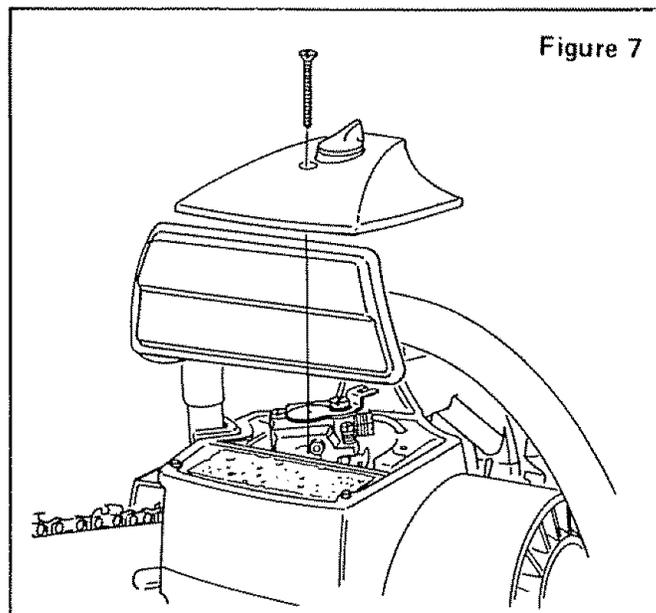
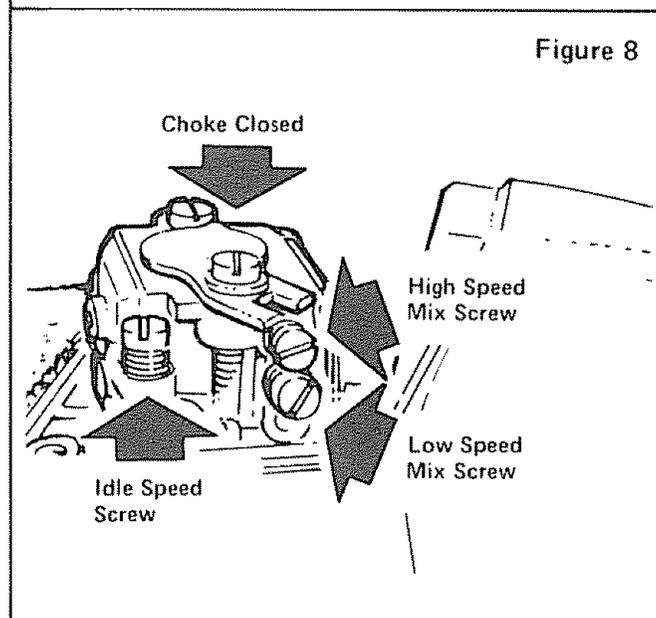

Figure 7
Figure 8
- 2 Remove the carburetor cover (Figure 7) Turn the high speed (Figure 8) and low speed mixture screws clockwise (Figure 8) until they stop. Don't tighten them, you may damage the needle seats!
- 3 Turn the high speed and low speed mixture screws one full turn counterclockwise (Figure 8)
- 4 Start the engine. If it stops, increase the idle speed (Figure 8) by turning the idle speed screw clockwise (Figure 8). Keep dirt and sawdust away from the carburetor while the cover is removed.
- 6 Set the idle speed as fast as possible without the chain moving. Turn the idle speed screw clockwise (Figure 8) for faster idle, counterclockwise (Figure 8) for slower idle
- 7 Squeeze the trigger quickly. If the engine stops, restart it. The engine should accelerate without hesitating when the trigger is squeezed. If it does not, turn the low speed mixture screw counterclockwise (Figure 8) 1/16 of a turn and check the acceleration again. If the idle speed slows while adjusting the low speed mixture, reset the idle speed as in step 6. Continue step 7 until acceleration is smooth.
- 9 If the engine seems to smoke excessively in the cut, turn the high speed mixture screw clockwise (Figure 8) 1/16 of a turn. Repeat step 8 and 9, if necessary. **WARNING:** The high speed needle must never be less than 7/8 turn open. Too lean of a setting will quickly ruin the engine.
- 10 If the engine seems to weaken or lose power in the cut, turn the high speed mixture screw counterclockwise (Figure 8) 1/16 of a turn at a time until the saw cuts smoothly. The high speed mixture screw should not be open more than 1 1/4 turns (counterclockwise (Figure 8) ) from the stopped position in step 2
- 2 Move the choke shutter to the choke closed position (See Figure 8).